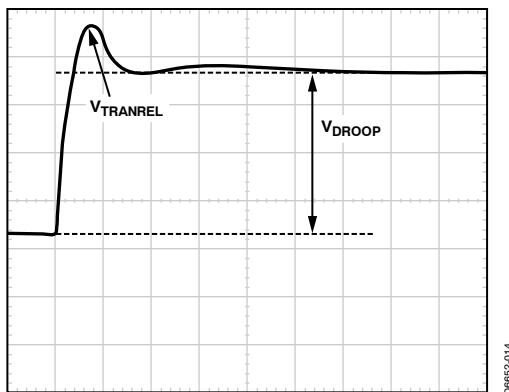

Figure 17. Transient Setting Waveform
- For load release (see Figure 17), if  $V_{TRANREL}$  is larger than the allowed overshoot, there is not enough output capacitance. Either increase the capacitance directly or decrease the inductor values. If the inductors are changed, however, it will be necessary to redesign the circuit using the information from the spreadsheet and to repeat all tuning guide procedures.